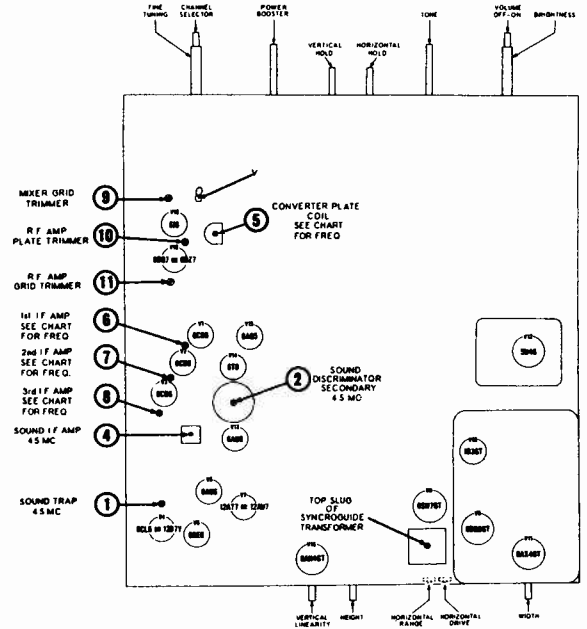

FIG. 10
1. A special aligning tool designed to fit the stems on adjustable cores of the IF coils (see points 5, 6, 7 and 8 in Fig. 10) is available and may be obtained from Stewart-Warner by requesting IF Alignment Tool #507479.